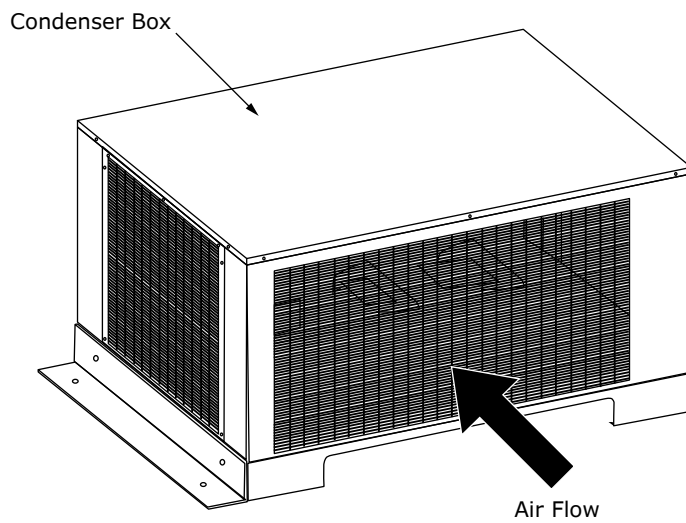

Figure 5: Required Air Flow for Condenser Box
- Make sure the environment allows for adequate airflow to guarantee cooling for the condenser and the compressor unit (see Figure 5)